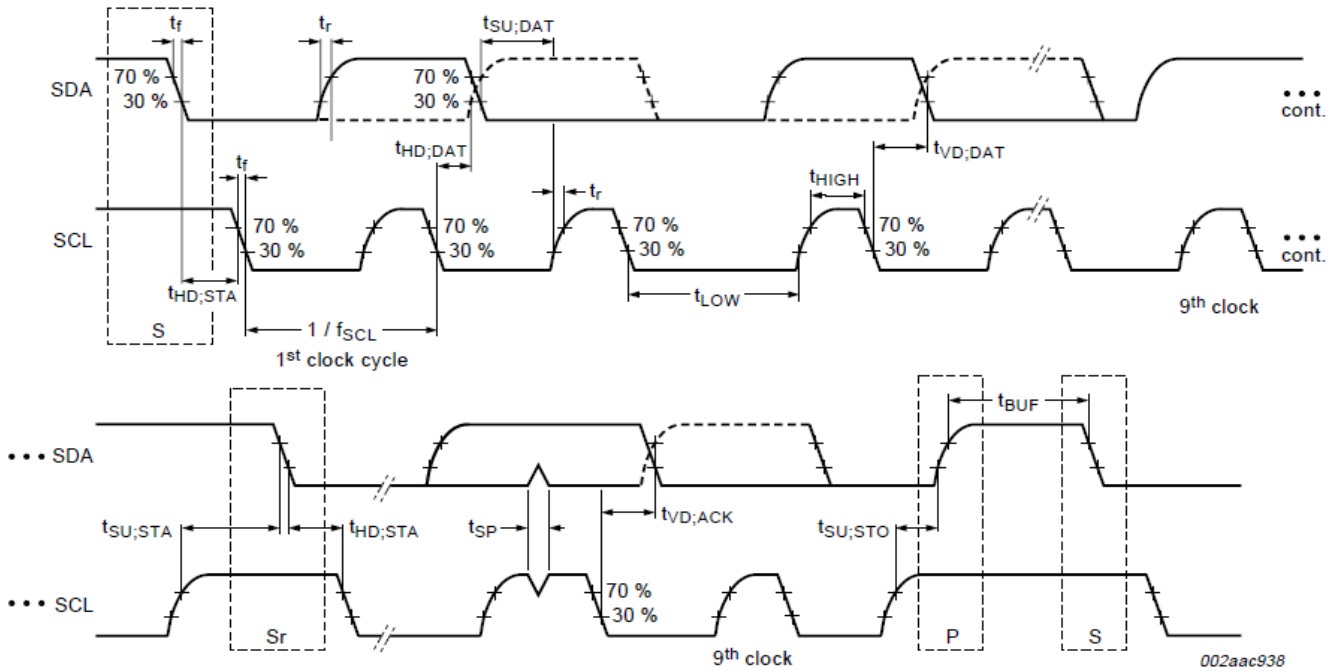

FIGURE 2. I2C TIMING DIAGRAM
**I2C Electrical Specifications** For SCL and SDA (Figure 2), unless otherwise noted,  $V_{DD} = 3V$ ,  $T_A = +25^\circ C$ ,  $R_{EXT} = 499k\Omega$  1% and  $1M\Omega$  1% tolerance.
There are eight 8-bit registers available inside the ISL29033. The two command registers define the operation of the device. The command registers do not change until the registers are overwritten. The two 8-bit data read-only registers are for the ADC output. The data registers contain the ADC's latest digital output, or the number of clock cycles in the previous integration period (Figure 2 on page 7).